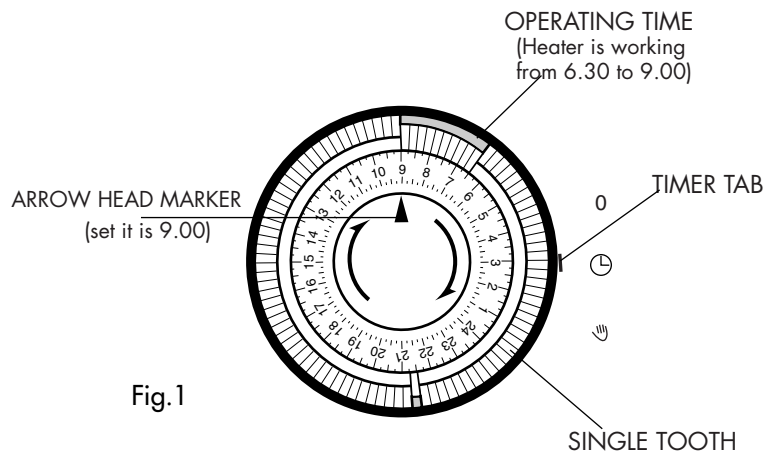

Fig.1
Check that the timer tab (fig.1) on the outside rim of the timer is lined up with the manual "☞" symbol.
- Align the timer tab (fig.1) to the "☹" timed operation symbol.
If you wish to override the timer settings, move the timer tab up to the "☞" manual (timer override) position (Fig. 1).